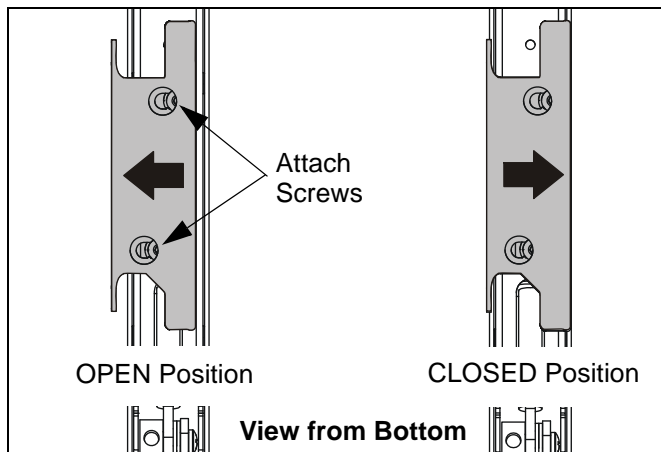

Figure 21: Height Adjustable Arm - Cable Management Bracket
2. Open the cable management bracket (on height-adjustable arm only) by sliding it towards the edge of the arm (See Figure 21).
4. Close cable management bracket by sliding it back towards the centerline of the arm (See Figure 21).